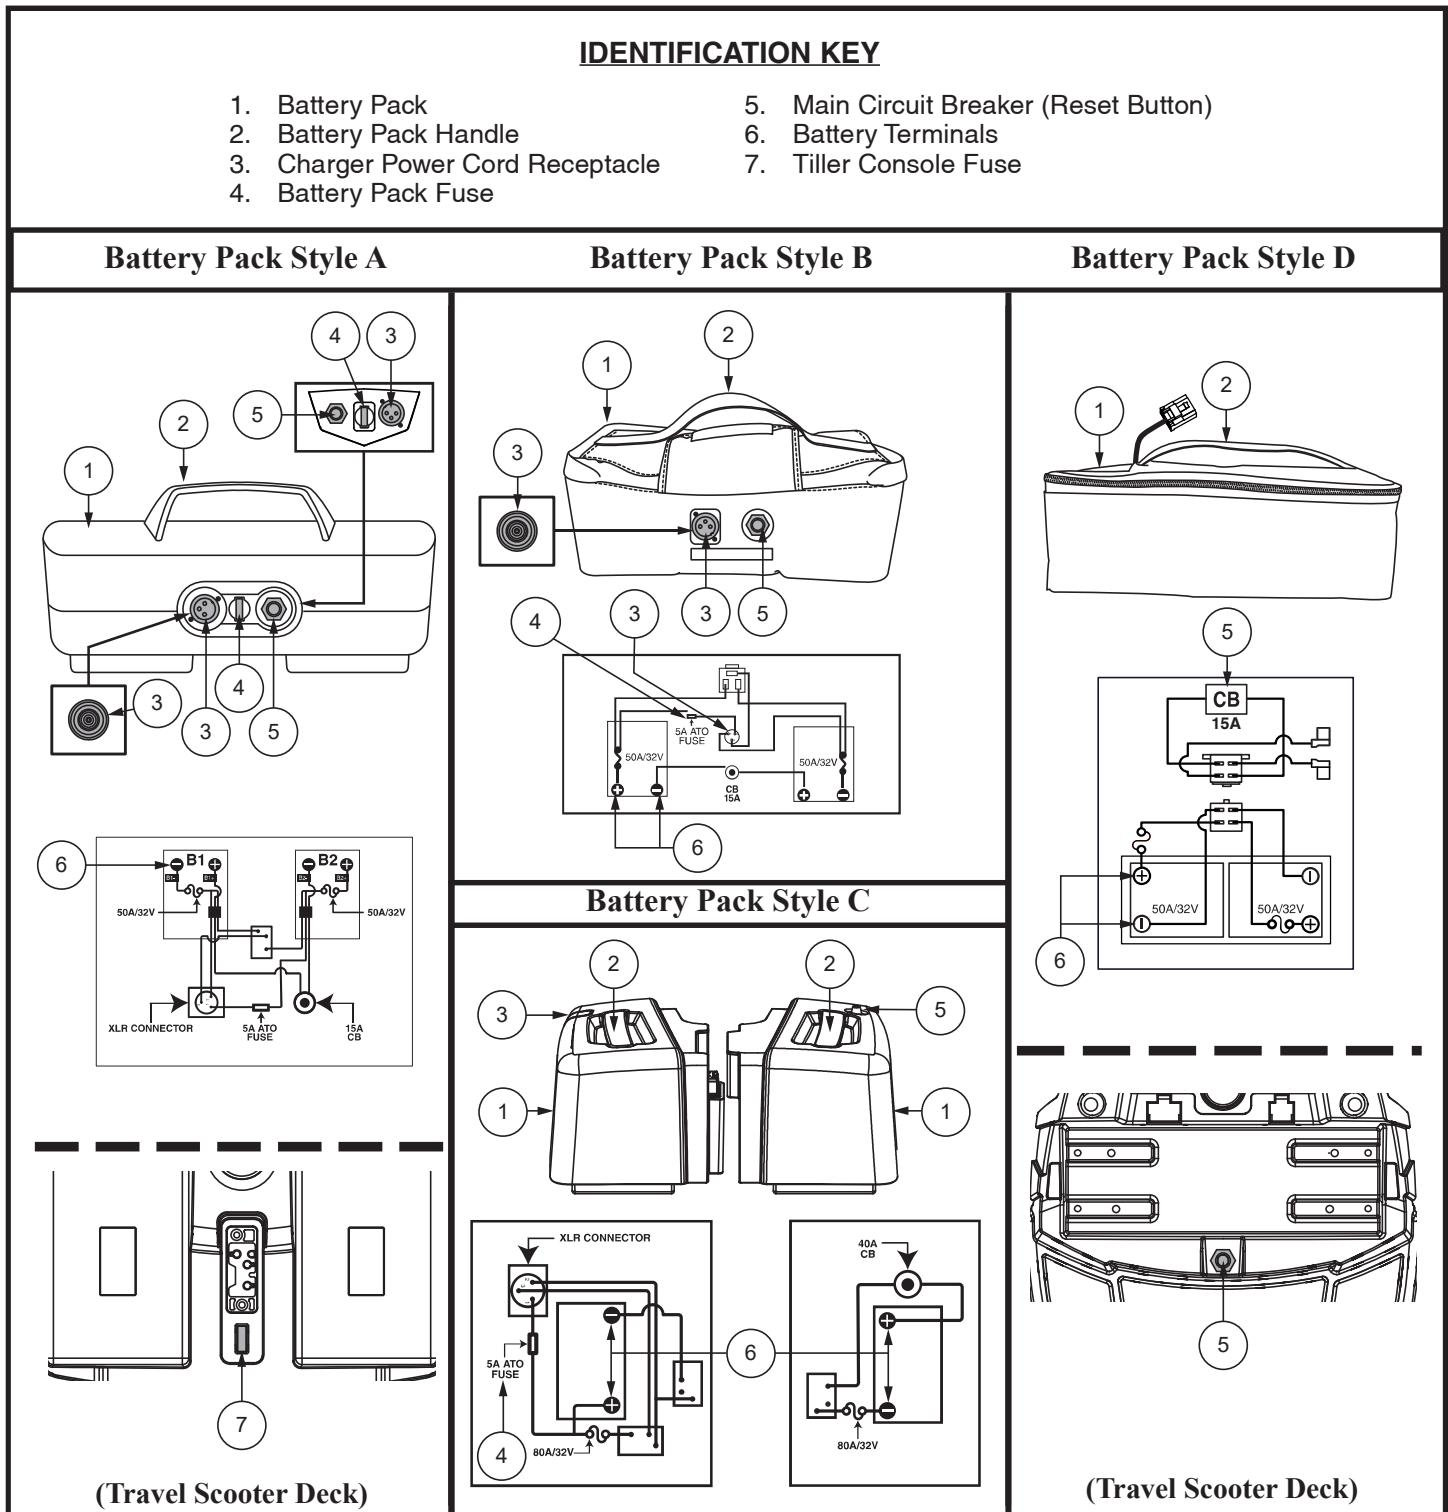

Figure 10. Battery Pack
Your Travel Scooter is equipped with an innovative, easy-to-remove battery pack. A handle on the top of the battery pack makes it easy to lift the pack off of the Travel Scooter with one hand. Depending on the configuration of your Travel Scooter, the battery pack contains either one or two rechargeable batteries, and may contain the charger power cord receptacle, the main circuit breaker (reset button), and the battery pack fuse. **See figures 10 and 11.**
When the voltage in your Travel Scooter's batteries becomes low or the Travel Scooter is heavily strained because of excessive loads or steep inclines, the main circuit breaker may trip to protect the motor and electronics from damage. **See figures 10 and 11.**
The fuse located under the battery pack protects the tiller console electronics. **See figure 10.** In the event any component of the tiller console is not responding, check this fuse. See VII. "Basic Troubleshooting" for fuse replacement instructions.
- Ensure that the fuse on the battery pack is in working condition. **See figures 10 and 11.**